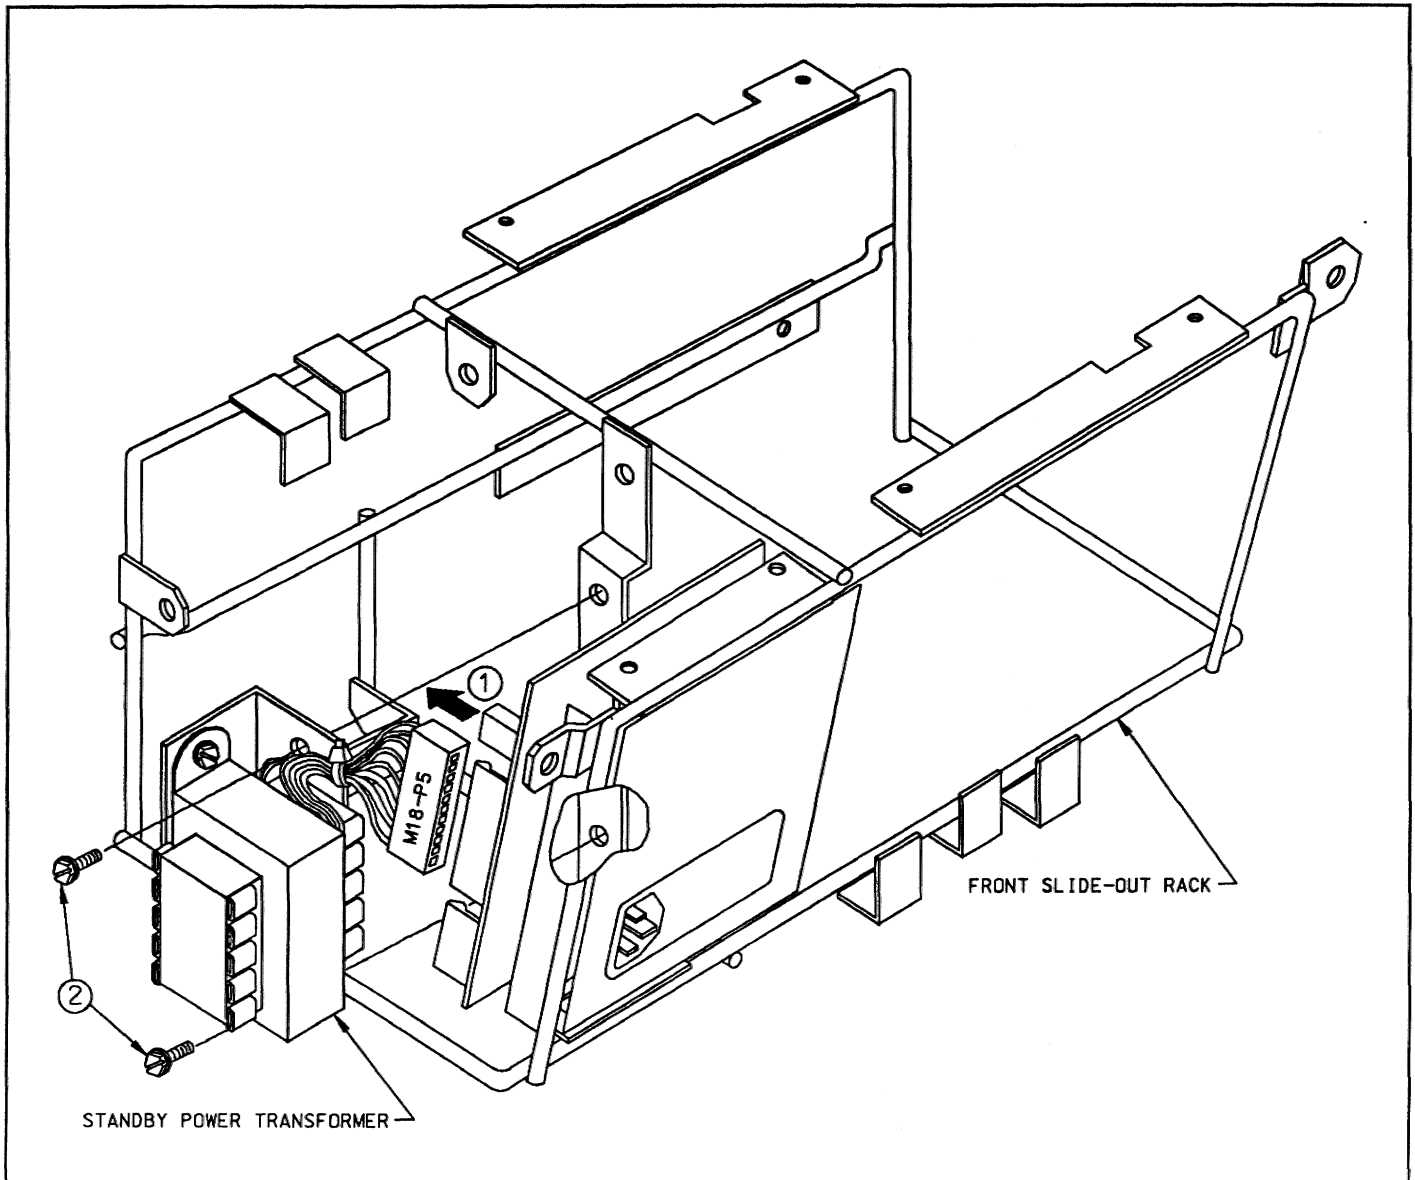

FIGURE 5-12. Standby Power Transformer Removal
b) Unplug connector M18-P5 from the Power Entry module as shown in Figure 5-12 below.
c) Unscrew the two hex head screws which secure the power transformer bracket to the front slide-out rack (item 2 in diagram). Feed the transformer assembly out through the bottom of the rack.